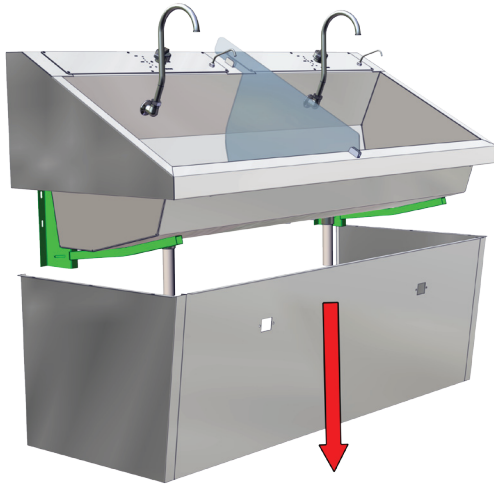

Fig. 10: Remove old base
9. Carefully lower the old sink base to the floor and remove (Fig. 10).